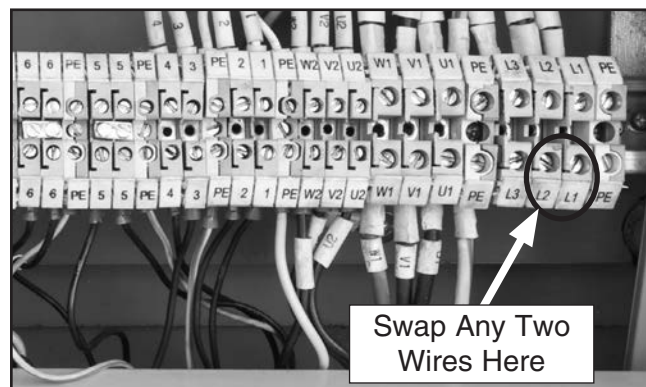

Figure 11. Swapping power connections to correct out-of-phase wiring.
3. Swap the incoming L1 and L2 wire positions on the terminals shown in **Figure 11**.